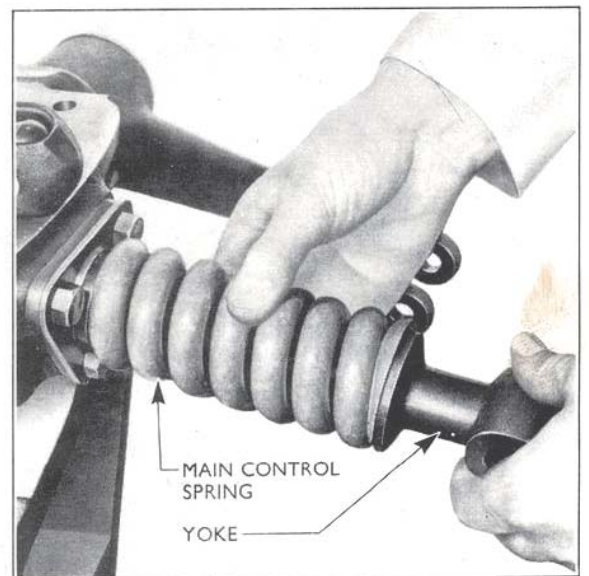

Fig. 38
23. Position the main control spring on the spring seat and screw the yoke onto the plunger. Tighten the yoke until the main control spring may be just rotated with the finger and thumb of one hand. (See Fig. 38.)